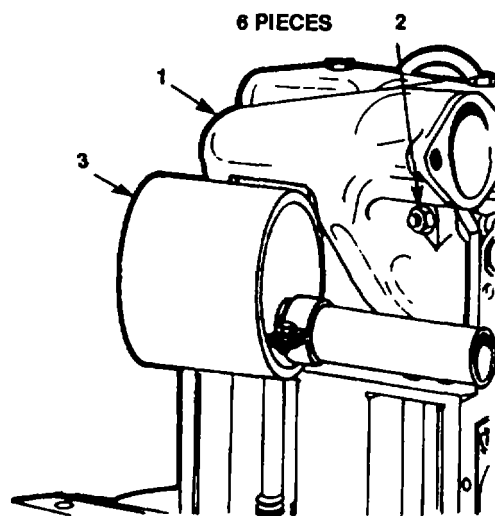

Figure 3-31. Intake Manifold
- b Remove four nuts (2) that secure intake manifold (1) to engine (figure 3-31).